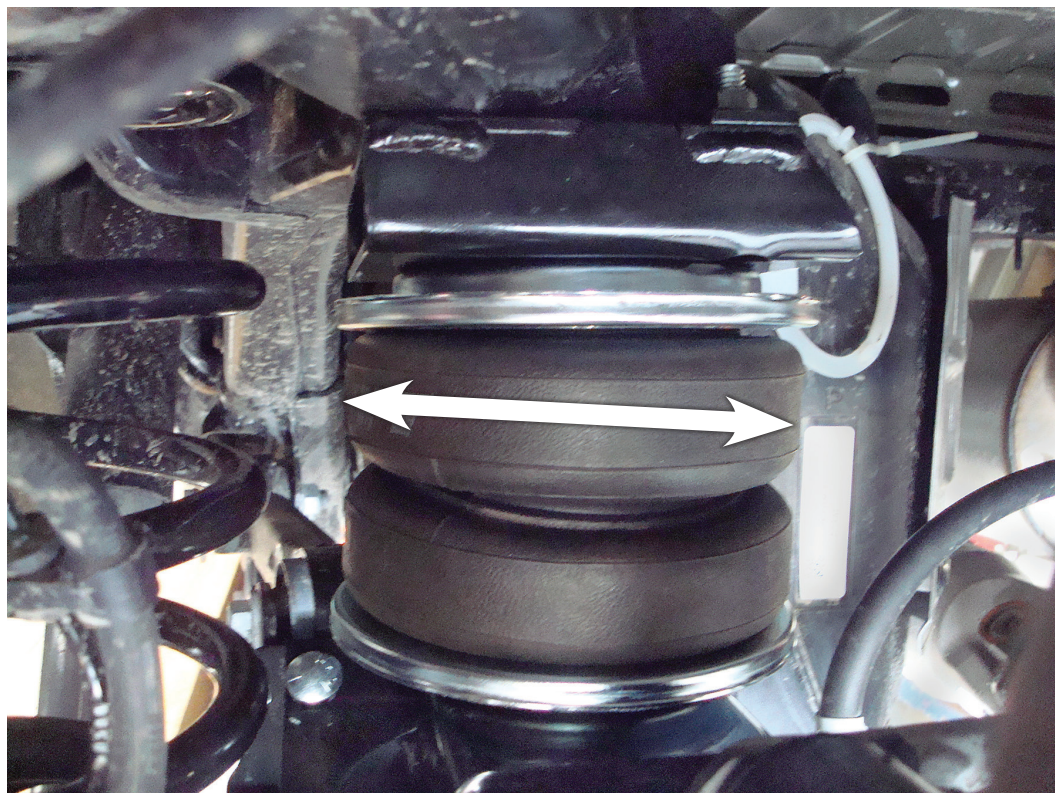

Fig. 22
10. Adjust the upper air spring assembly so it is as close to perpendicular as possible to the upper and lower bracket by moving it within the slot in the upper bracket (Fig. 22).